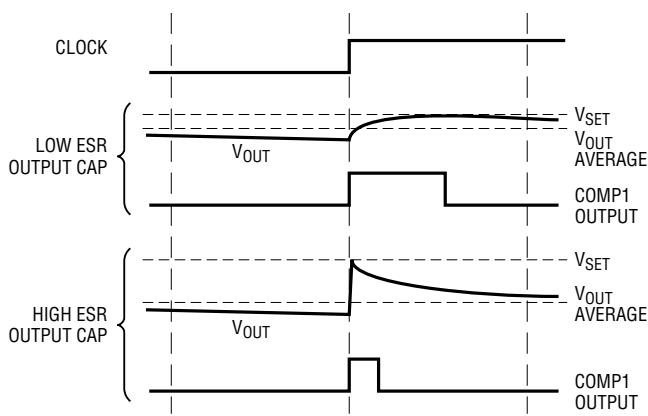

Figure 4. Output Ripple with Low and High ESR Capacitors
3.3 $\mu$ F tantalum capacitor has 1 $\Omega$  or 2 $\Omega$  of ESR;  $100\text{mA} \times 2\Omega = 200\text{mV}$ . If the output is within 200mV of the set point this additional 200mV surge will trip the feedback comparator and terminate the charging cycle. The pulse dissipates quickly and the comparator returns to the correct state, but the RS latch will not allow the charge pump to respond until the next clock edge. This prevents the charge pump from going into very high frequency oscillation under such conditions but it also creates an output error as the feedback loop regulates based on the top of the spike, not the average value of the output (Figure 4). The resulting output voltage behaves as if a resistor of value  $C_{\text{ESR}} \times (I_{\text{PK}}/I_{\text{AVE}})\Omega$  was placed in series with the output. To avoid this nasty sequence of events, connect a 0.1 $\mu$ F ceramic capacitor in parallel with the larger output capacitor. The ceramic capacitor will “eat” the high frequency spike, preventing it from fooling the feedback loop, while the larger but slower tantalum or aluminum output capacitor supplies output current to the load between charge cycles.